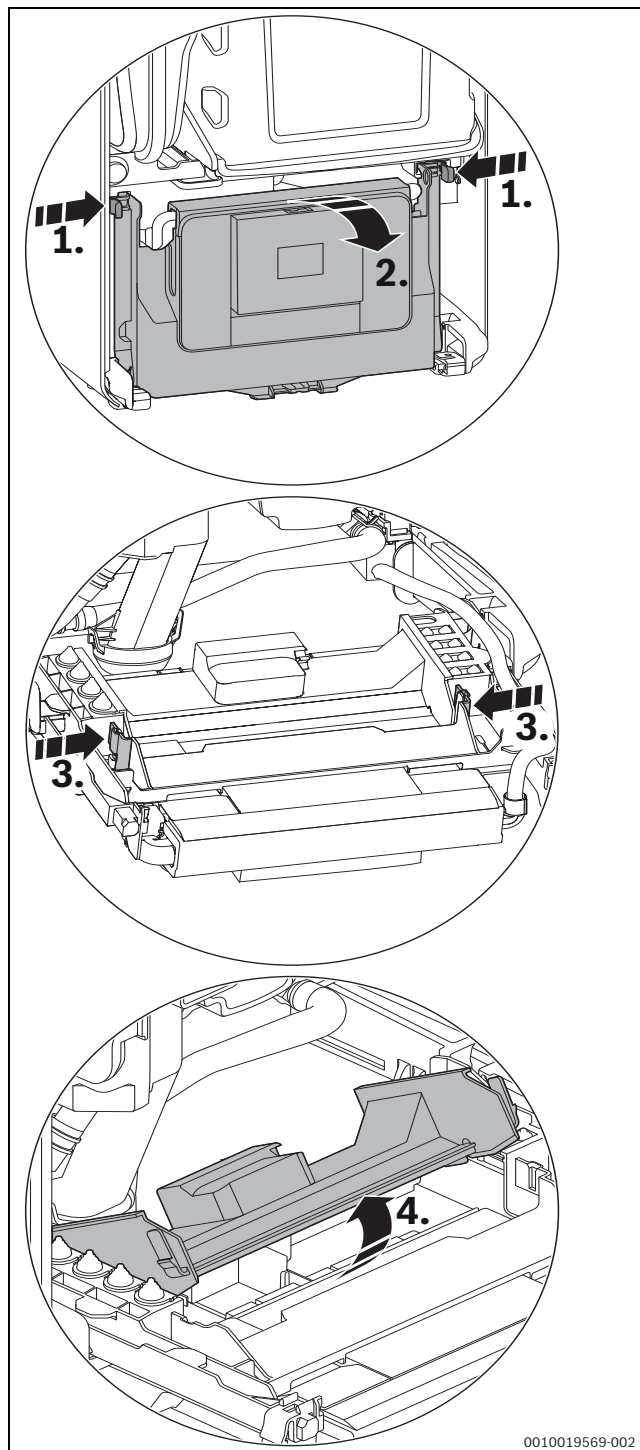

Fig. 25 Opening the cover
- Flip down the control device (→ Fig. 25).